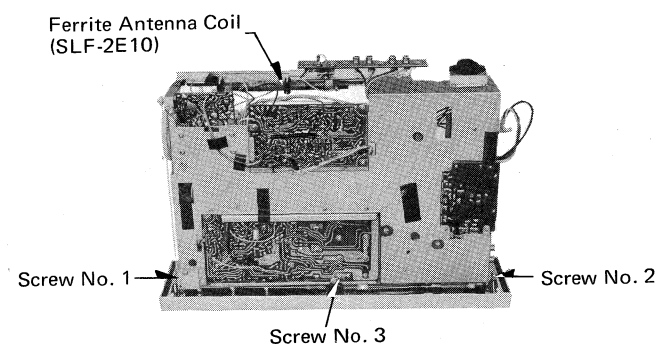

Fig. 10
2. Remove seven (7) chassis mounting screws Nos. 1-7, as shown in Figs. 10 & 11.